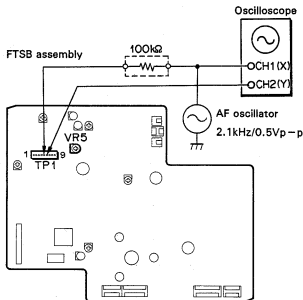

Fig. 11-1
2. Connect the X and Y terminals of the oscilloscope as shown in Fig. 11-1, and observe the Lissajous's waveforms.